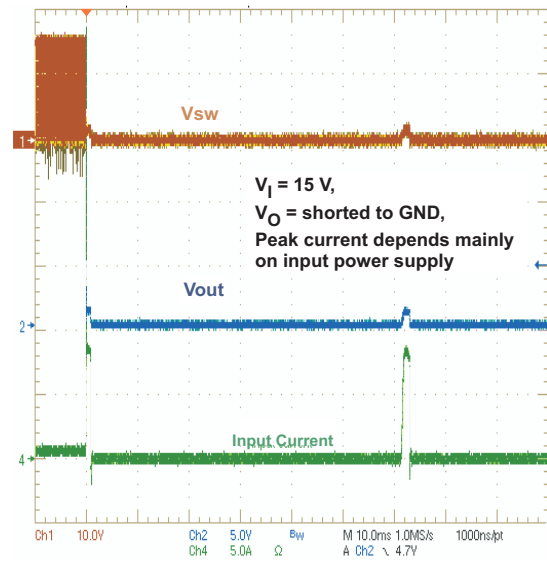

Figure 6.
**Boost converter Vs:** A short circuit is detected when the voltage on SUP, that is connected to the output falls typically below 4.5V. Then the isolation switch is opened by pulling GD high. After a delay of typically 60mS the isolation switch is closed again and restarts the output automatically. See Figure 6.